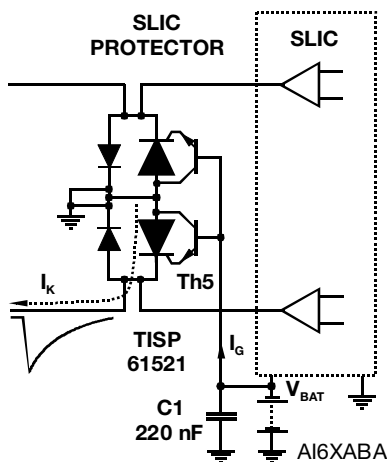
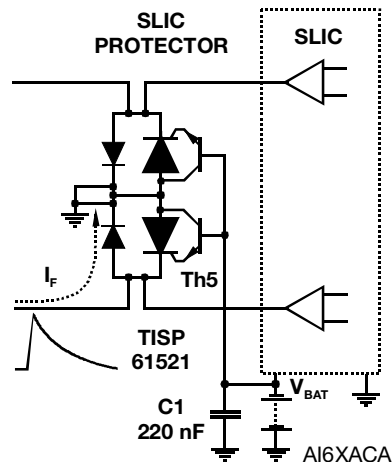
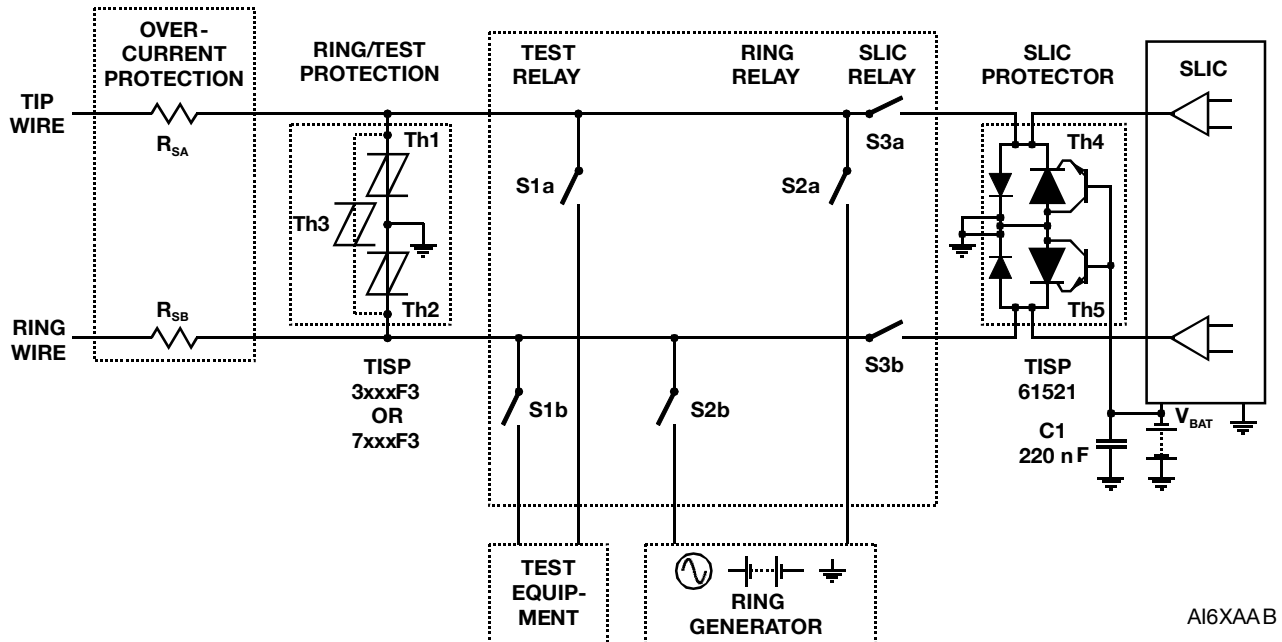

Figure 3. Negative Overvoltage Condition
Figure 4. Positive Overvoltage Condition
Figure 6. Typical Application Circuit
SLICs have become more sophisticated. To minimize power consumption, some designs automatically adjust the driver supply voltage to a value that is just sufficient to drive the required line current. For short lines, the supply voltage would be set low, but for long lines, a higher supply voltage would be generated to drive sufficient line current. The optimum protection for this type of SLIC would be given by a protection voltage which tracks the SLIC supply voltage. This can be achieved by connecting the protection thyristor gate to the SLIC V_{BAT} supply, Figure 3. This gated (programmable) protection arrangement minimizes the voltage stress on the SLIC, no matter what value of supply voltage.
Figure 3 and Figure 4 show how the TISP61521 limits negative and positive overvoltages. Positive overvoltages (Figure 4) are clipped by the antiparallel diode of Th5 and the resulting current is diverted to ground. Negative overvoltages (Figure 3) are initially clipped close to the SLIC negative supply rail value (V_{BAT}). If sufficient current is available from the overvoltage, then Th5 will switch into a low voltage on-state condition. As the overvoltage subsides, the high holding current of Th5 prevents d.c. latchup. The protection voltage will be the sum of the gate supply (V_{BAT}) and the peak gate-cathode voltage ($V_{GK(BO)}$). The protection voltage will be increased if there is a long connection between the gate decoupling capacitor, C1, and the gate terminal. During the initial rise of a fast impulse, the gate current (I_G) is the same as the cathode current (I_K). Rates of 70 A/ μ s can cause inductive voltages of 0.7 V in 2.5 cm of printed wiring track. To minimize this inductive voltage increase of protection voltage, the length of the capacitor to gate terminal tracking should be minimized. Inductive voltages in the protector cathode wiring will also increase the protection voltage. These voltages can be minimized by routing the SLIC connection through the protector as shown in Figure 6.
Figure 6 shows a typical TISP61521 SLIC card protection circuit. The incoming line conductors, Ring (R) and Tip (T), connect to the relay matrix via the series overcurrent protection. Fusible resistors, fuses and positive temperature coefficient (PTC) resistors can be used for overcurrent protection. Resistors will reduce the prospective current from the surge generator for both the TISP61521 and the ring/test protector. The TISP7xxxF3 protector has the same protection voltage for any terminal pair. This protector is used when the ring generator configuration may be ground or battery-backed. For dedicated ground-backed ringing generators, the TISP3xxxF3 gives better protection as its inter-conductor protection voltage is twice the conductor to ground value.